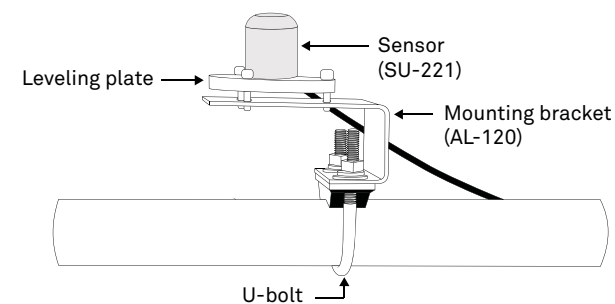

Figure 2 Apogee UV sensor installed on mast or pipe
3. Mount the sensor to the leveling plate (Figure 2) with the included nylon screw.
5. Attach the mounting bracket either to a horizontal arm (Figure 2) or vertical post using the included U-bolt.